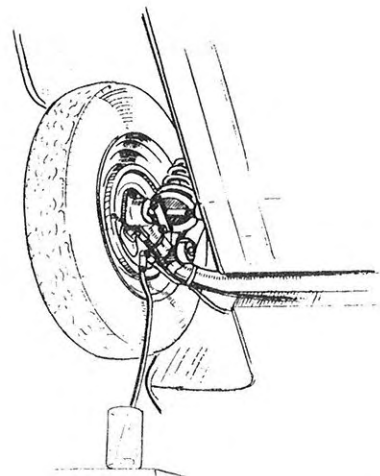

Fig. 10. Bleeding of rear wheel brake
2. Attach a hose of suitable size to the bleeder screw on the left-hand rear brake, see Figs. 10 and 11.